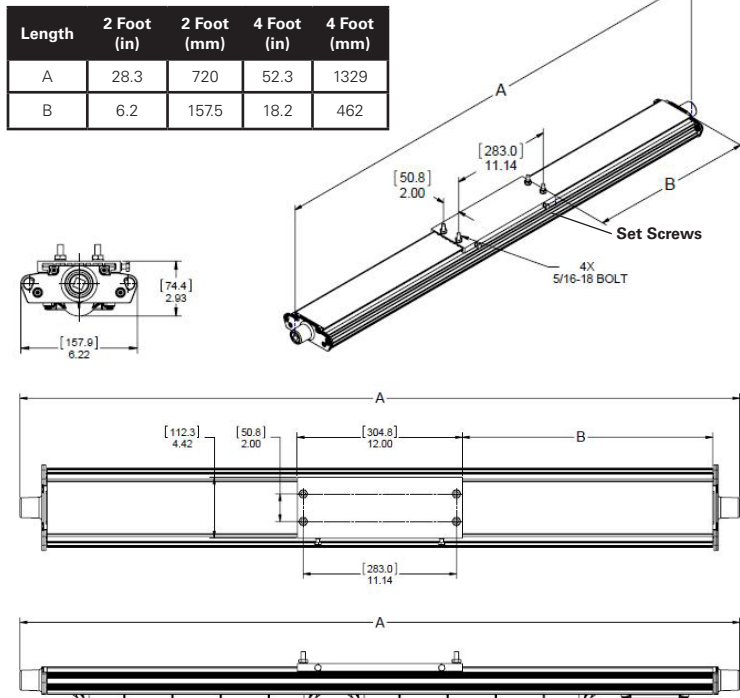

Figure 3. DP1057MTK Back Mount Installation
- For back mount, use the bracket as a template, mark and drill holes into the mounting surface and use supplied 5/16" bolts (see Figure 3).
- Fixture is now ready for mounting. It is strongly suggested to use two (2) qualified tradespeople to proceed with the final mounting of the fixture. This is recommended to avoid any personal injury or damage to the fixture.
- Tighten the two (2) 1/4" set screws on the slide bracket until they bottom. Torque to 78 in.-lbs. (8.8 N-m).